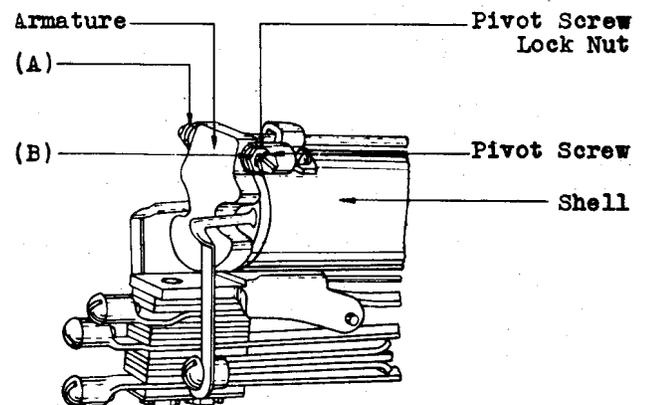

Fig. 2
2.03 Armature Movement - Fig. 2 (A) - The armature shall not bind and shall not have excessive end play measured in line with the axis of the pivots. Excessive shall be interpreted to mean more than .005". Gauge by eye and feel.
*2.04 Tightness of Pivot Screw Lock Nuts - Fig. 2 (B) - The pivot screw lock nuts shall be sufficiently tight to hold the pivot screws in their proper positions. Gauge by feel.